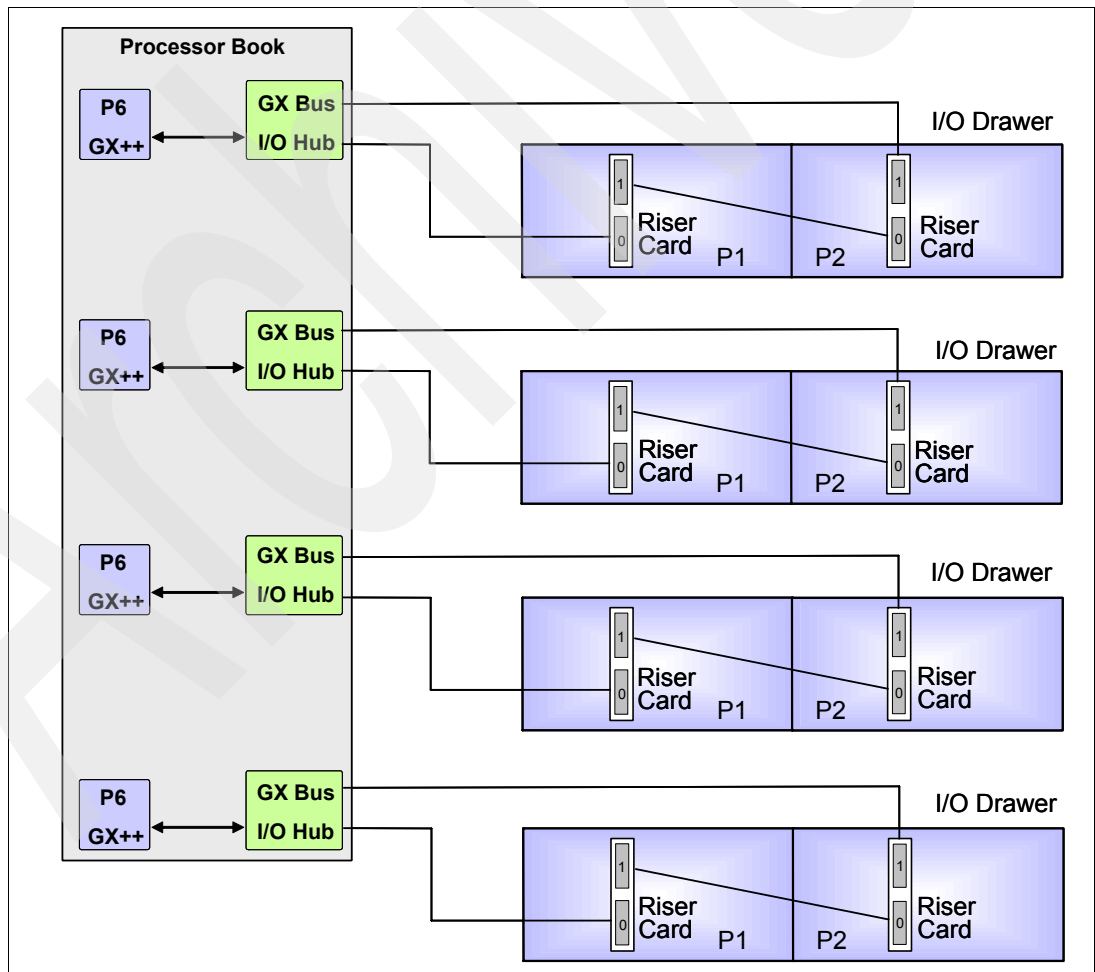

Figure 2-40 Single loop I/O drawer cabling
- ▶ Single-loop (Figure 2-40 on page 89) mode connects an entire I/O drawer to the CEC using one RIO-2 or 12x loop. In this configuration, the two I/O planars in the I/O drawer are connected together using a short cable. Single-loop connection requires one RIO-2 Loop Attachment Adapter (#1814) or GX Dual-Port 12x (#1816) per I/O drawer.
Single loop I/O drawer connections are shown in Figure 2-40.